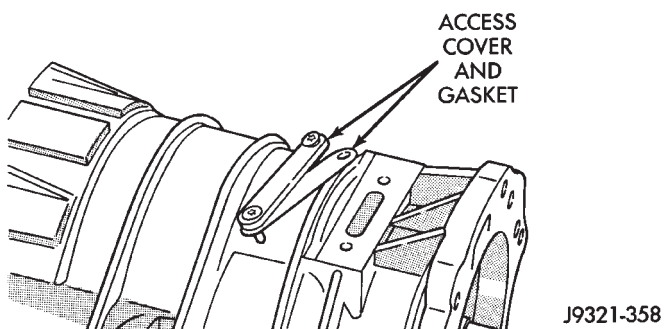

Fig. 257 Access Cover And Gasket Removal/Installation
(4) Remove access cover and gasket (Fig. 257).